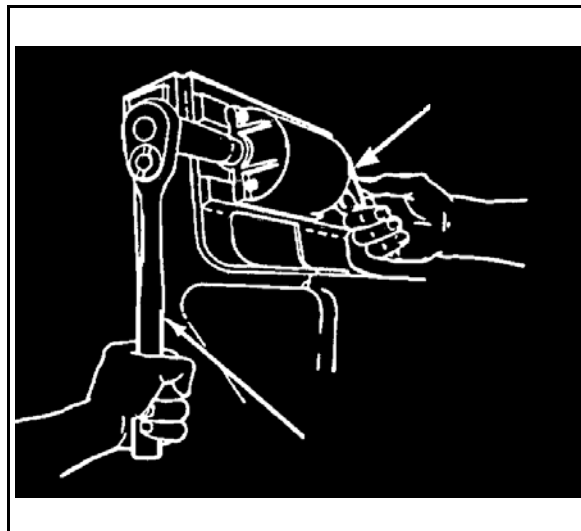

Figure 8. HE release handle.
(1) Put the 14-mm ratchet wrench on the HE ammunition forwarder, with the wrench handle to the left.
(2) Turn the 14-mm ratchet wrench to move the ammunition up the chute slightly. Put upward pressure on the wrench and pull the HE release handle to the right.
(3) Hold the HE release handle to the right while moving the wrench to the straight down position (Figure 8).
(4) Let go of the HE release handle and turn the ratchet wrench right until the HE release handle pops back into place and until only two rounds are visible in the HE feed chute.